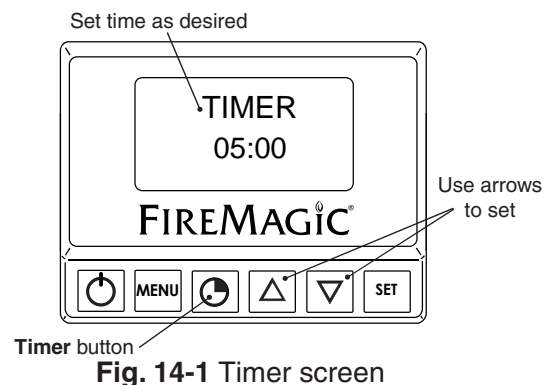

Fig. 14-1 Timer screen
1. Press the timer button. Use the arrows to set the desired amount of time (see Fig. 14-1.)